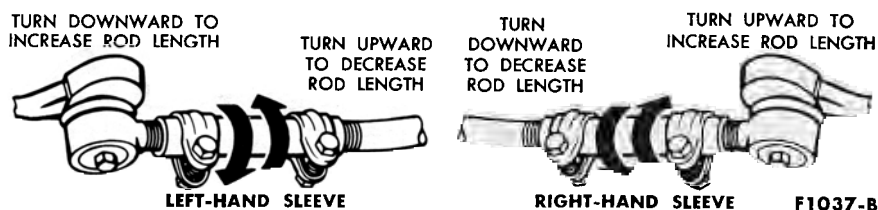

FIG. 42—Spindle Connecting Rod Adjustment
2. Adjust toe-in. If the steering wheel spokes are in their normal position, lengthen or shorten both rods equally to obtain correct toe-in (Fig. 42). If the steering wheel spokes are not in their normal position, make the necessary rod adjustments to obtain correct toe-in and